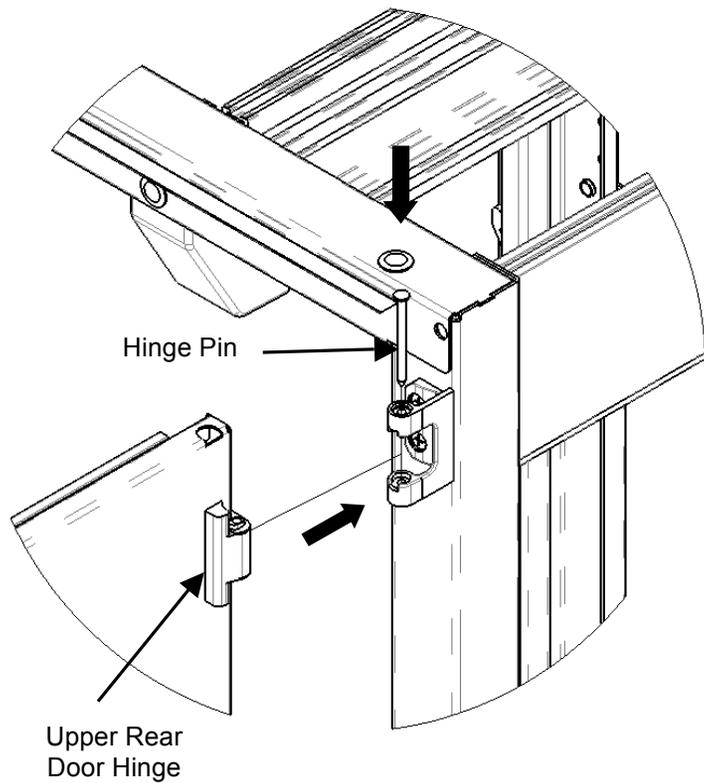

Fig. 2
4. With the door held perpendicular to the cabinet, slide the door onto the hinges and rotate to close (Fig. 2).
5. Insert the hinge pins into the hinges from the top. Push the pins down into the hinges until their tops are flush with the tops of the hinges. It may be necessary to lightly tap on the tops of the pins to seat them (Fig. 2).